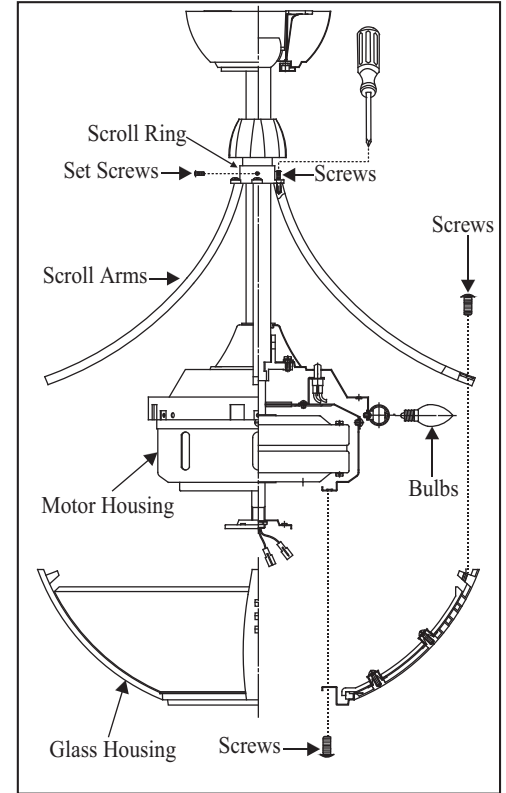

Figure 13
2. Raise and hold the glass housing close to the motor, place the key holes on the glass housing over the 3 screws previously loosened from the motor housing, turn glass housing until it locks in place at the narrow section of the key holes. Secure by tightening the 3 screws previously loosened and the one previously removed. (Fig. 13)
3. Remove the screw located on the top of glass housing, place the decorative scroll arm on to the top of the glass housing and secure with the screw removed previously. Repeat for other decorative scroll arms. (Fig. 13)
4. Tighten the 4 screws on the scroll ring, be sure to secure the decorative scroll arm to scroll ring tightly. Tighten two set screws on scroll ring firmly. (Fig. 13)
5. Install the 6 x 15W bulbs (provided) into the sockets of the bulb holder assembly. (Fig. 13)